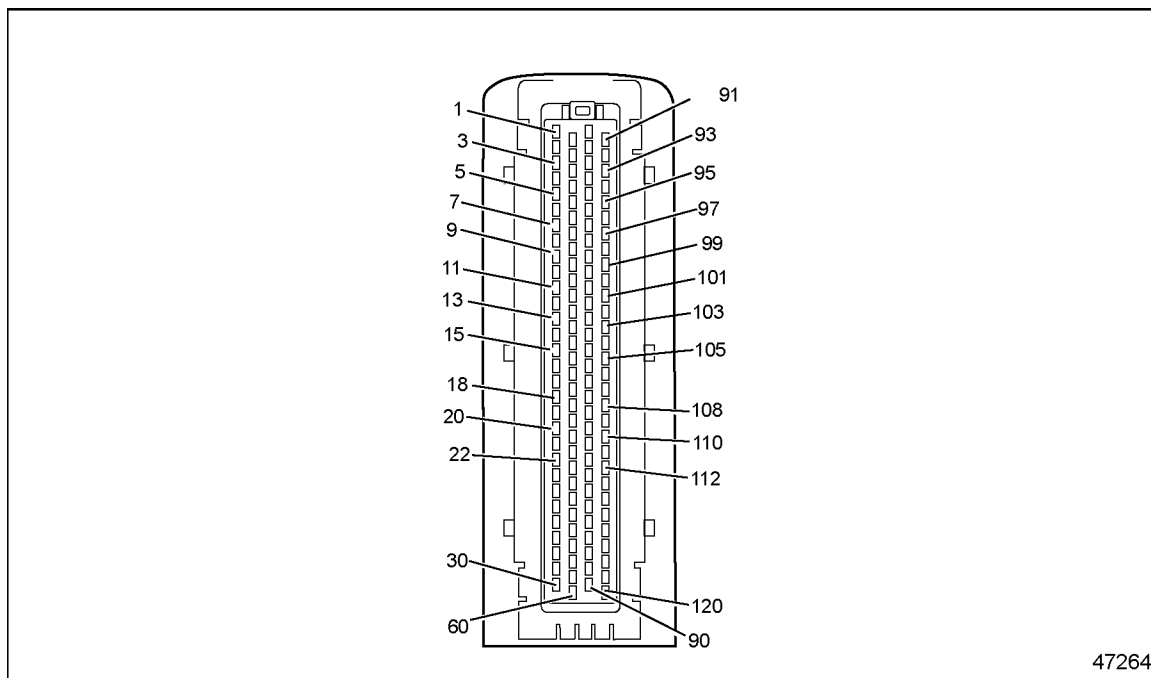

Figure 13-1 MCM 120-pin Connector
- [a] If the voltage is between 2.75 and 3.25 volts, repair the open circuit between pin 1 of the SFT Sensor harness connector and pin 55 of the 120-pin MCM connector. See Figure 13-1. Refer to section 13.1.2.1.
- [b] If the voltage is less than 2.75 volts, repair the open circuit between pin 2 of the SFT Sensor harness connector and pin 77 of the 120-pin MCM connector. See Figure 13-1. Refer to section 13.1.2.1.